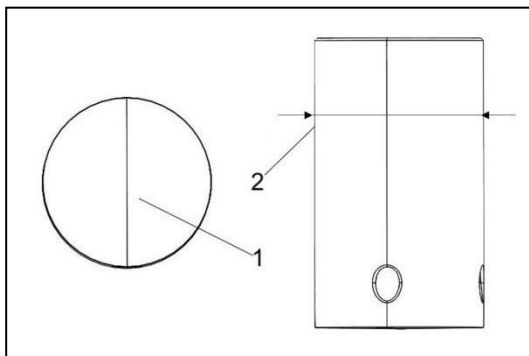

Figure 121
1. Inspect the tappet contact surfaces for abnormal wear (Figure 121, 1).
2. Measure the outside diameter of the tappet stem (Figure 121, 2). See the mechanical specifications chart for the service limit.